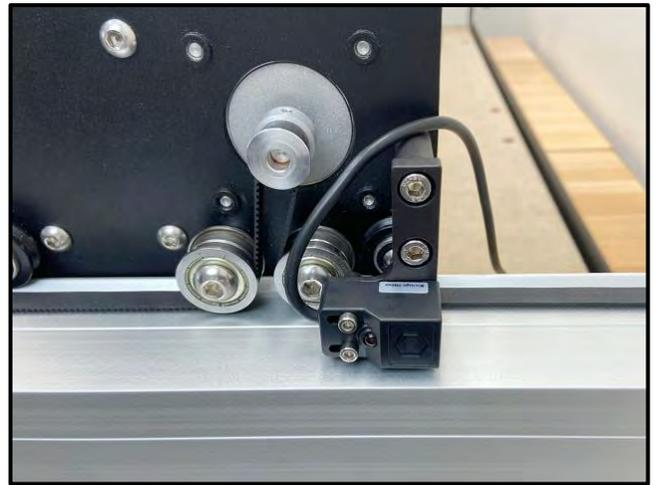

Figure 18
1. Attach the Y-Axis proximity switch to the mount on the outside of the Y2-carriage. See **Fig. 18**.
- d. Use a 2.5mm hex key and two (2) M3×18mm SHCS to secure.